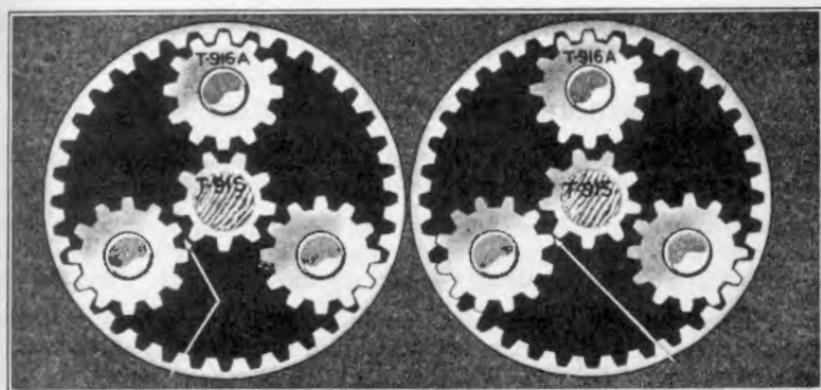

Fig. 396
- 774 The installation of a "5 to 1" driving pinion in a set of "4 to 1" driving gears would very likely cause a serious accident due to locked gears, as the new style driving pinions are considerably smaller than the old design (See Fig. 396).